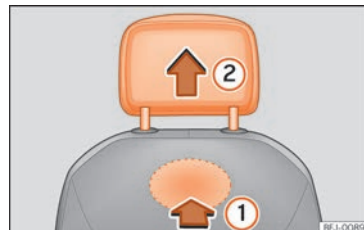

Fig. 77 Front head restraint: removal.
- To unlock it, look for the rabbet on the bottom of the backrest and press in the direction of the arrow >>> Fig. 77 ①.
- Remove the head restraint in the direction of the arrow ②.